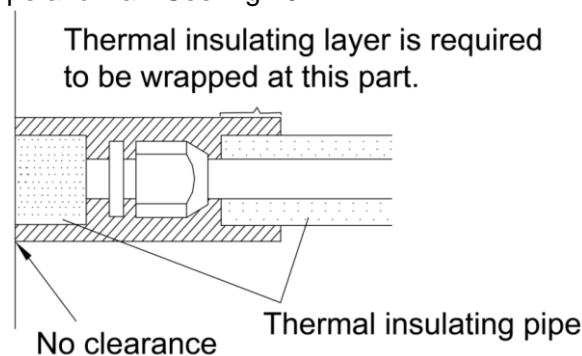

Fig.16
3) Joints at indoor and outdoor units should be wrapped with insulating material and leave no clearance between pipe and wall. See Fig.16.